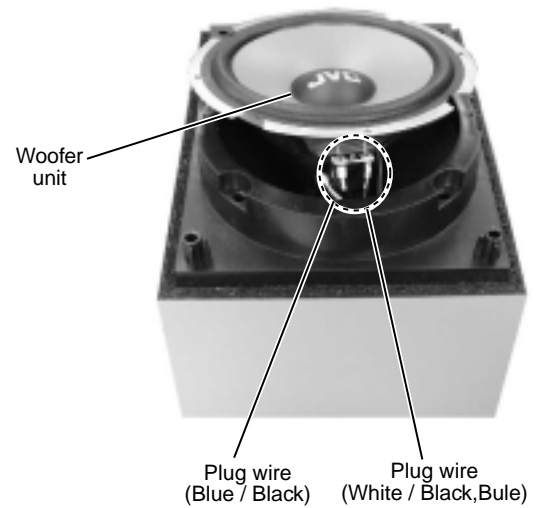

Fig.10
■ Removing the woofer unit (See Fig.10 and 11)